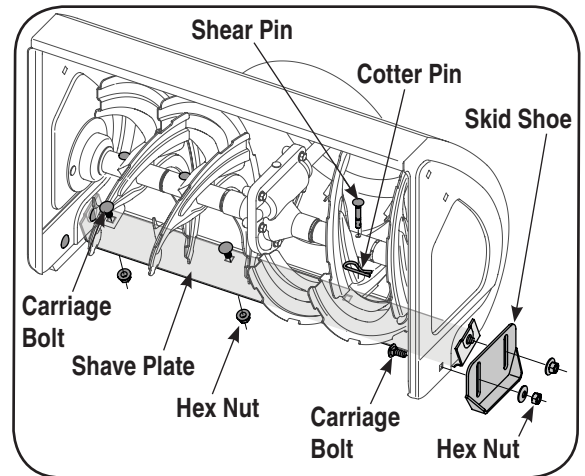

Figure 9
2. Reassemble new skid shoes with the four carriage bolts (two on each side) and hex flange nuts. Refer to Figure 9.